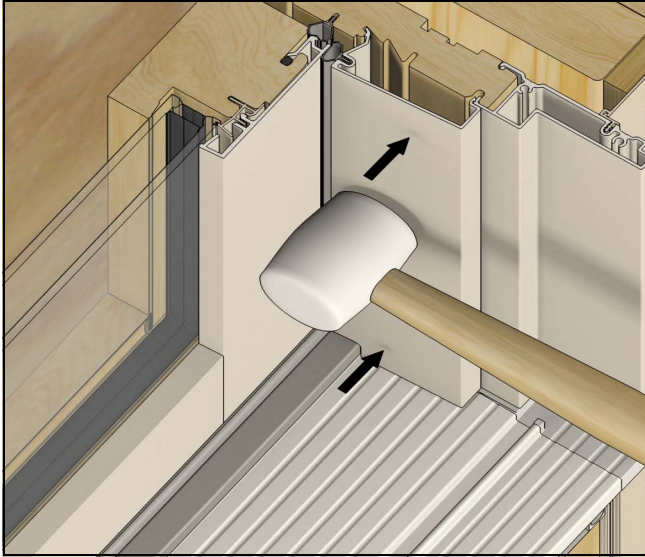

Figure 18
1. To install the stop, rotate engagement feature into the wood jamb kerf. Push the cover the whole way to the header cover. Starting at the top, using a rubber mallet, impact the outer edge of the cover to seat it. Continue working down towards the sill to fully seat it. See Figure 18.